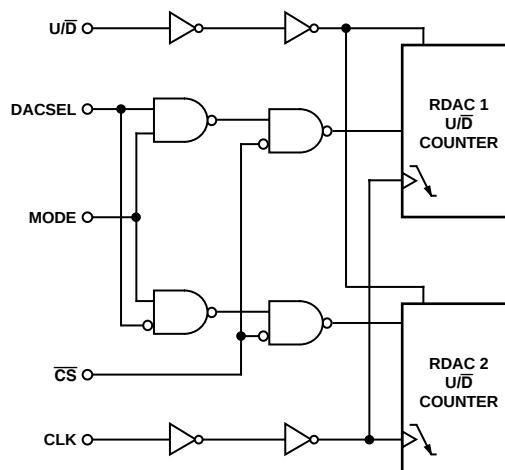

Figure 30. Detailed Digital Logic Interface Circuit
The AD5222 contains a push-button controllable interface. The active inputs are clock (CLK), $\overline{CS}$ and up/down ($U/\overline{D}$). While the MODE, and DACSEL pins control common updates or individual updates. The negative-edge sensitive CLK input requires clean transitions to avoid clocking multiple pulses into the internal UP/DOWN counter register, Figure 30. Standard logic families work well. If mechanical switches are used for product evaluation a flip-flop or other suitable means should debounce them. When $\overline{CS}$ is taken active low, the clock begins to increment or decrement the internal up/down counter, dependent upon the state of the $U/\overline{D}$ control pin. The UP/DOWN counter value (D) starts at 40_H at system power ON. Each new CLK pulse will increment the value of the internal counter by 1 LSB until the full-scale value of $7F_H$ is reached, as long as the $U/\overline{D}$ pin is logic high. If the $U/\overline{D}$ pin is taken to logic low, the counter will count down, stopping at code 00_H (zero-scale). Additional clock pulses on the CLK pin are ignored when the wiper is at either the 00_H position or the $7F_H$ position. The detailed digital logic interface circuitry is shown in Figure 30.